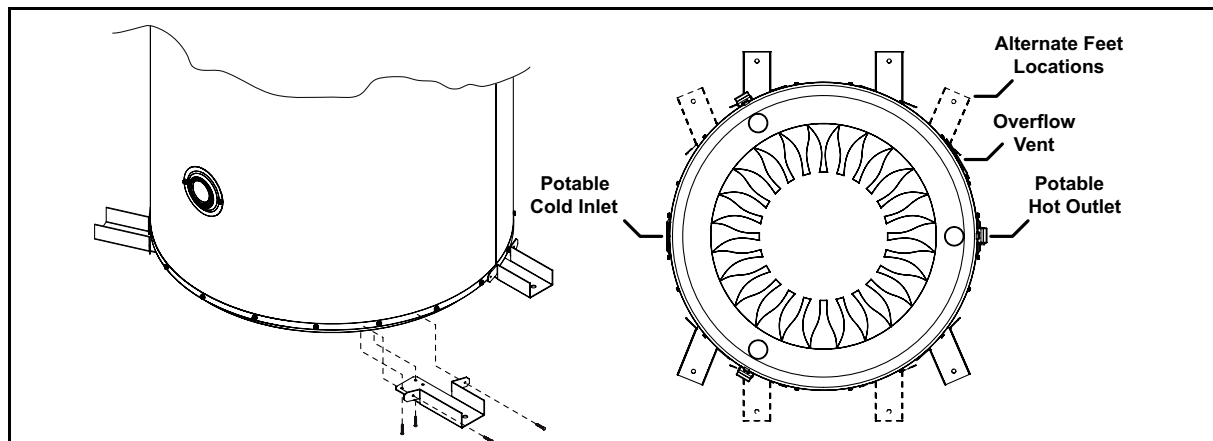

Figure 4 - DDHEX250 Vented Tank Feet Fitment
- Position the DDHEX250 VENTED TANK in desired location. If required, fit feet to base of tank and fix tank to floor (Refer Figure 4).